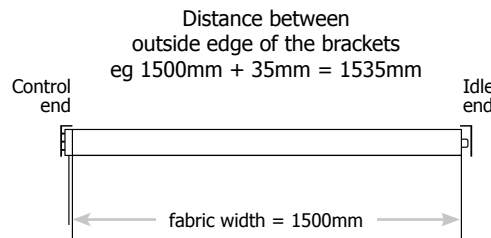

Fig.3
**2.** 1535mm would be the measurement from the outside of one bracket to the outside of the other bracket. (Fig.3)